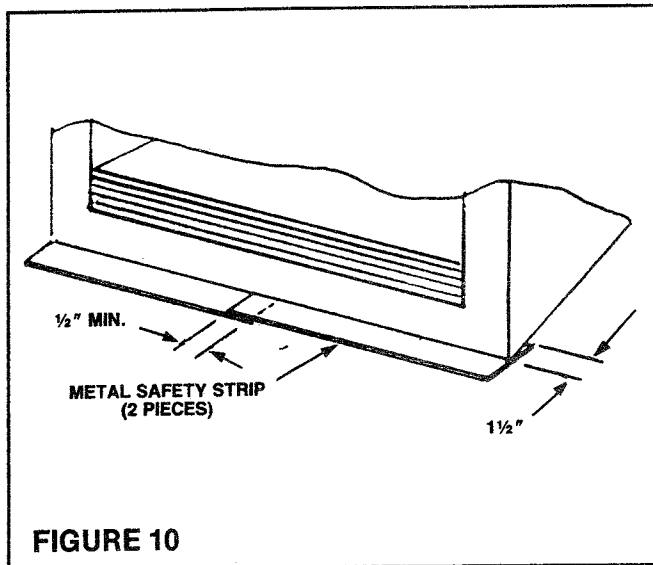

FIGURE 10
STEP 1: Frame the cavity or opening for the fireplace at the chosen location (Figure 9). Move the fireplace into position and install provided metal safety strips under the fireplace as shown in Figure 10.